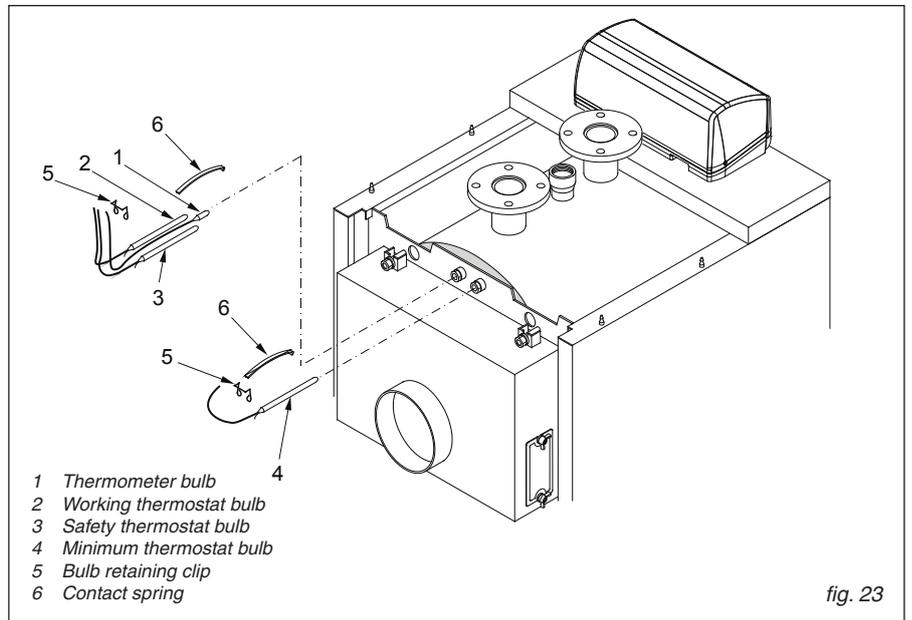

fig. 23
- E. Insert the thermometer and thermostat bulbs in the bulb holders as shown in fig. 23 and connect the mains, the burner, the pump(s) and any ancillary equipment to the panel board.
- F) Insert the thermometer and thermostat bulbs in the bulb holders as shown in fig. 23 and connect the mains, the burner, the pump(s) and any ancillary equipment to the panel board.